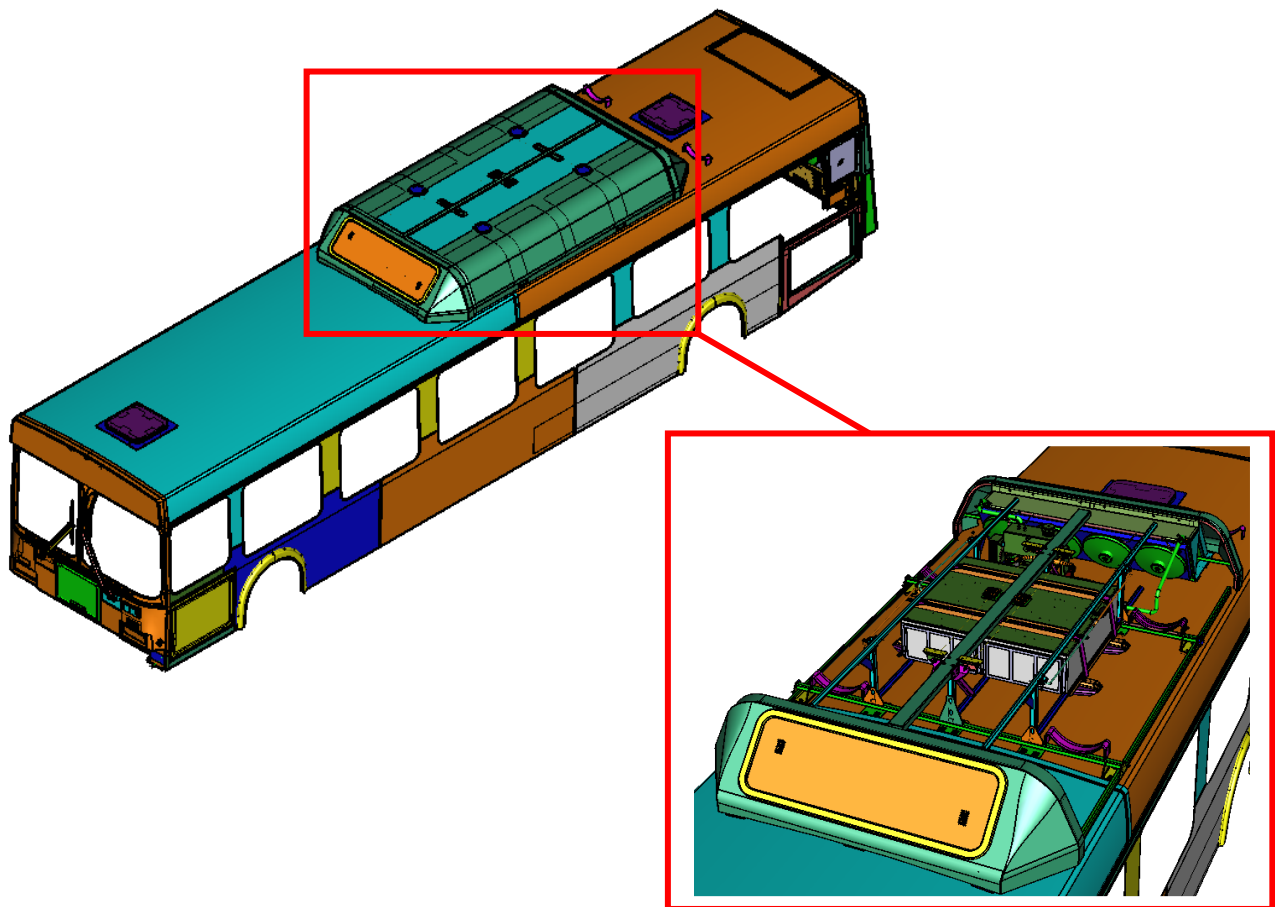
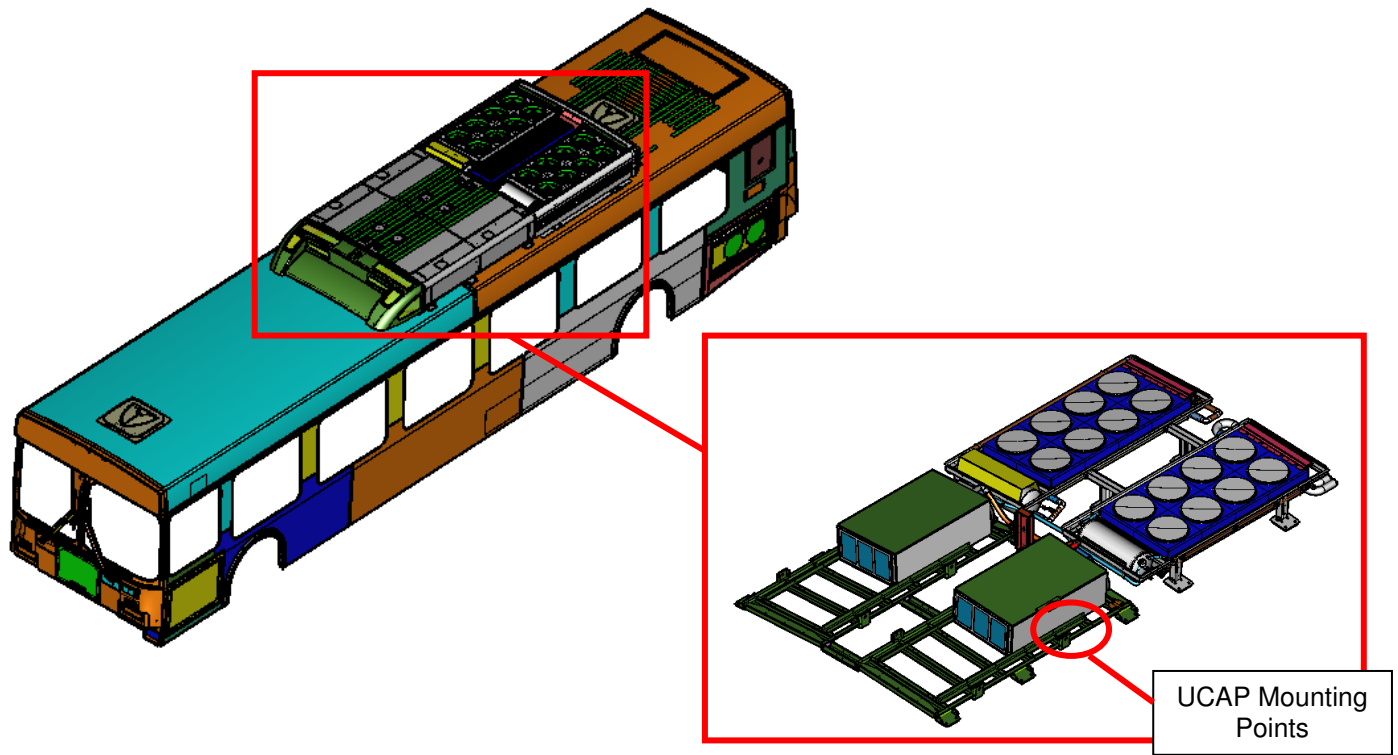

Fig 1 – Legacy UCAP Location (doors removed for clarity)
Fig 2 – SPLIT UCAP Location (doors removed for clarity)
- a. Open the clam shell doors on top of the bus to access the UCAP assembly. For Legacy style UCAP's (See Fig 1) proceed to step 3. For Mono style UCAP's (Fig 2) proceed to step 4.
- g. For Mono Style UCAP's, remove 6x mounting hardware (See Fig 2) to allow the UCAP to tilt up. Use a block of 4x4 wood or equivalent to prop up (allowing jig to sit per Fig 14). Using the LF-MT-2001 drill jig, drill out the holes to secure the circuit board cover. Clean out any debris left inside the box (potential for short circuits/faults). Ensure locating surfaces of the jig are free of silicone/debris. See Fig 14.
- h. For Mono UCAP's, remove the block of wood or equivalent and re-install the UCAP assembly to the mounting frame (see Fig 2). Re install circuit board by fastening connections on the rear face of UCAP box (both connection sides). See Fig 15.